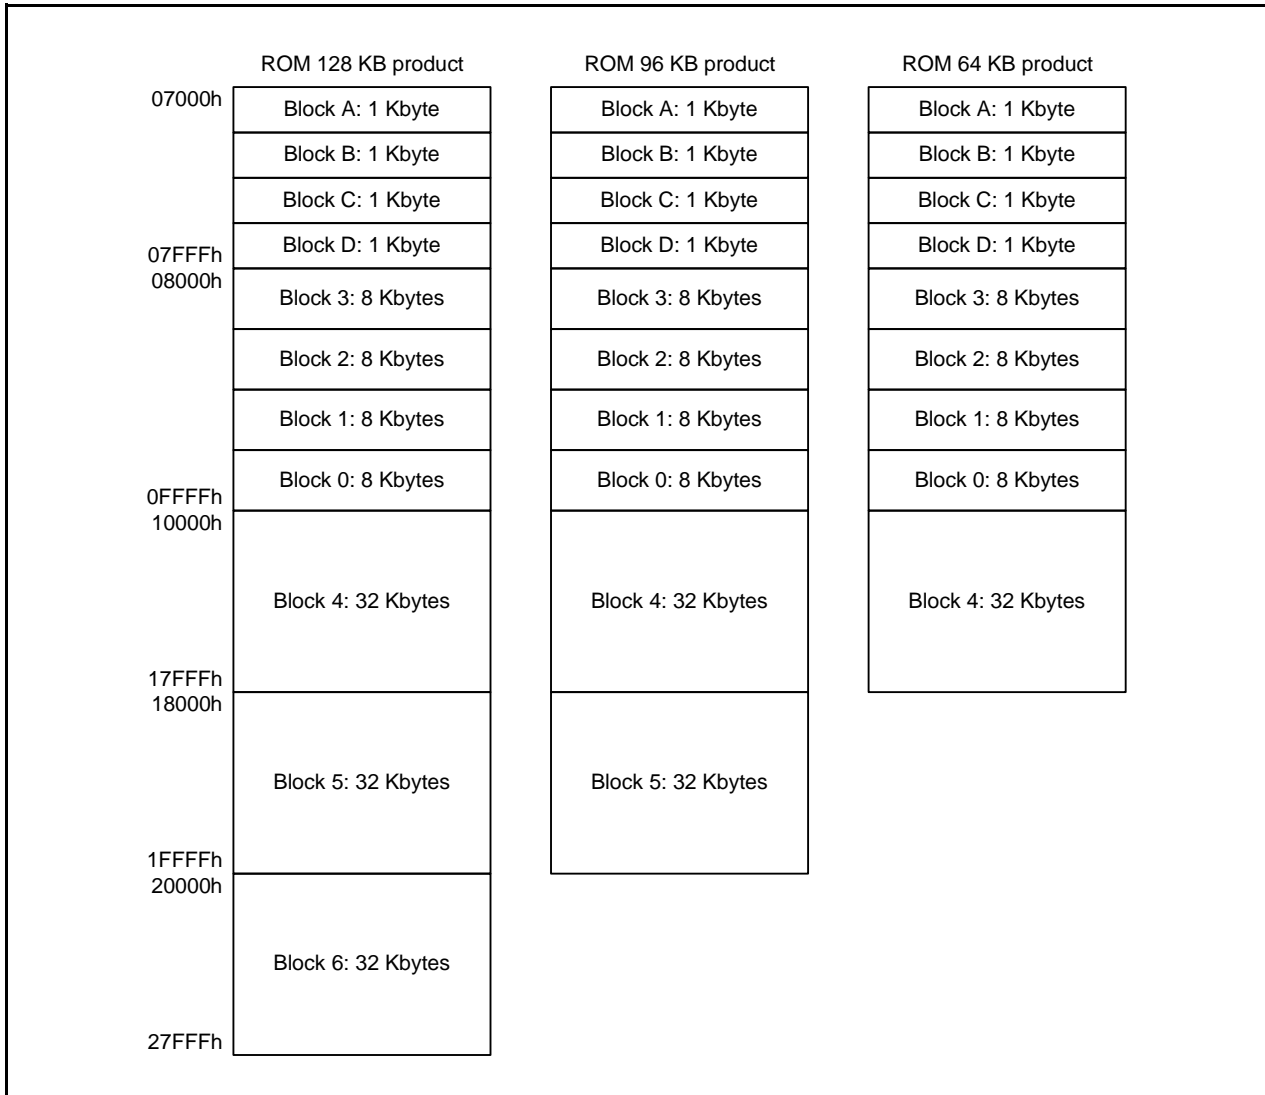

Figure 26.1 R8C/36T-A Group Flash Memory Block Diagram
- The number of blocks and block division vary with the MCU. Refer to **Figure 26.1** for details.
Figure 26.1 shows the R8C/36T-A Group Flash Memory Block Diagram.